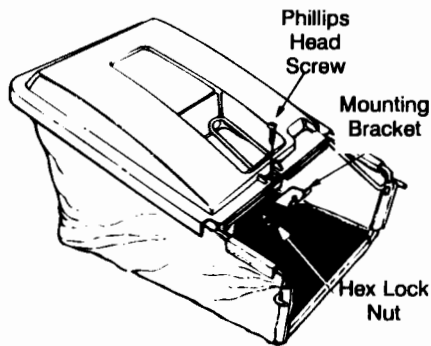

Figure 10
- Place the mounting bracket under the front of the handle, with the tabs on the bracket facing up. Insert phillips head screw down through the hardtop cover and mounting bracket. Secure with hex locknut. See figure 10.